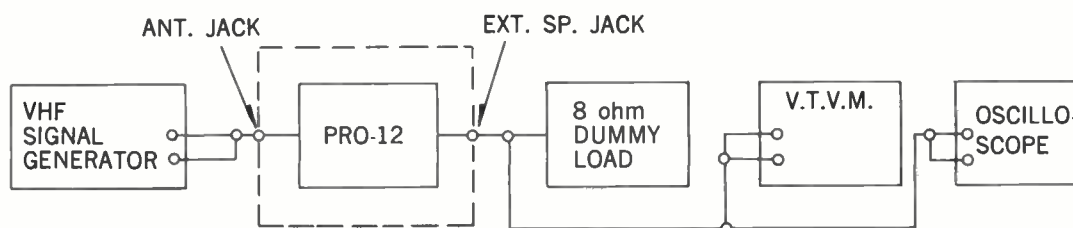

Figure 3. RF ALIGNMENT CONNECTION DIAGRAM
- STEP 1. Connect the instruments as shown in Figure 3.